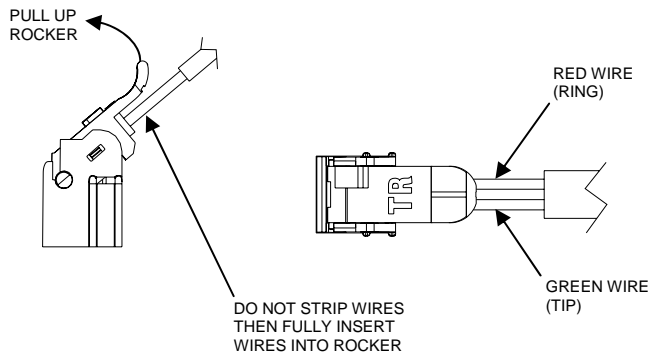

Figure 1
3. Install the tip and ring wires from the telephone company into the IDC rocker (marked "IN"). Do not strip the wires. Pull up the IDC rocker to the fully open position & insert the Telco wires until they bottom out (See Figure 1).
5. Install the inside customer premises wiring into the IDC rocker (marked "OUT"). Do not strip the wires. Pull up the IDC rocker to the fully open position & insert the customer premise wires until they bottom out (See Figure 1).